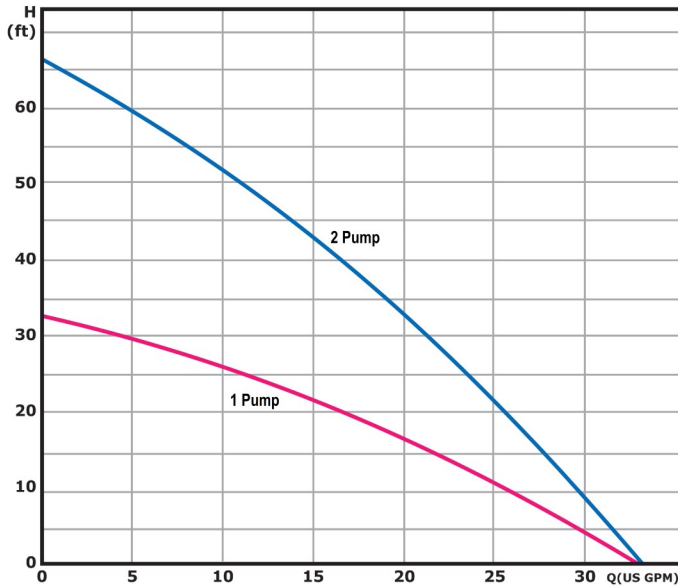

Fig. 1. Low Head Pump Center Flow Chart
Before installing the QT® Flow Center, check the flow charts and loop table against system flow and pressure drop characteristics to be sure the correct flow center is selected for the system. A one-pump flow center can accommodate flow for 3 1/2-ton units and smaller. A two-pump flow center can accommodate flow for 3 1/2- through 6-ton units. **(See Fig. 1, 2)** To ensure adequate flow, the selection must be made based on your specific system design.
1. By using the flow meter tool, monitor the flow (GPM) being pumped through the entire system. If the flow is not correct, check that the proper flow center has been selected for the application using pump curves (**See Fig. 1,2**). If the pump curve indicates the proper flow center was installed and the GPM is less than the system requires, an obstruction in the system is restricting flow.